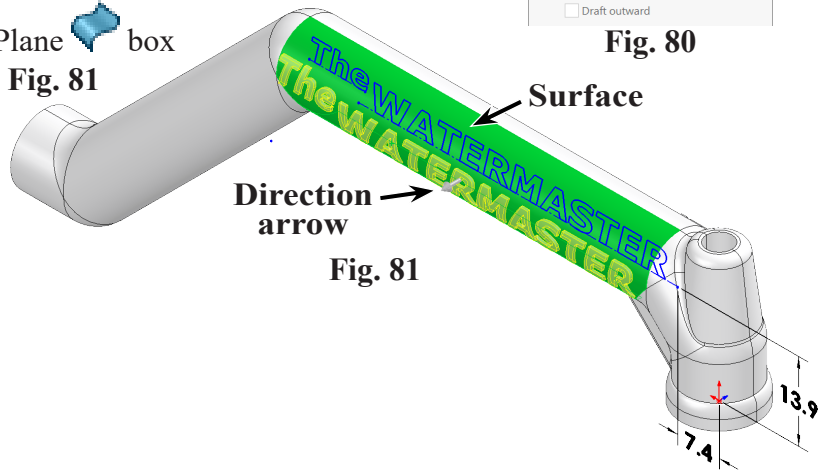

Fig. 81
Step 9. Rotate view to left side, **Fig. 81**. To rotate view, click **Isometric**  and **Shift-Ctrl** click **the Y axis of the Reference Triad**  (bottom left corner of graphics area).
click **face of split Sweep**, **Fig. 81**